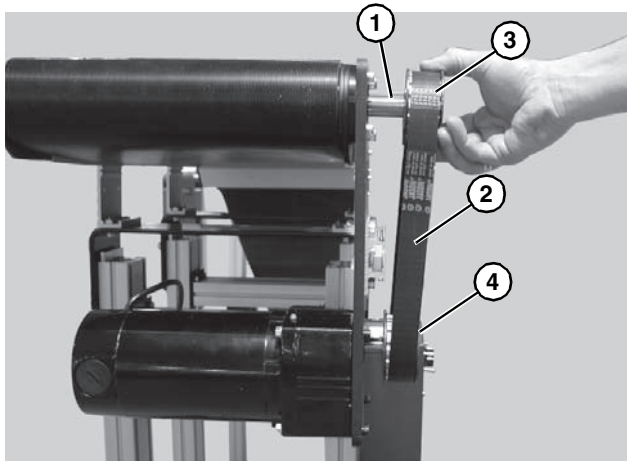

Figure 6
4. Install key (Figure 6, item 1).
5. Wrap timing belt (Figure 6, item 2) around driven pulley (Figure 6, item 3) and drive pulley (Figure 6, item 4). Install driven pulley onto conveyor shaft.
<p>If drive pulley (Figure 6, item 4) is replaced, wrap timing belt around drive pulley and complete step 3.</p>